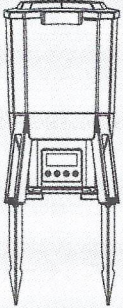

Figure 1
1. Attach the fixing pegs to the feeder and secure it at the edge of your pond. (Fig. 1)